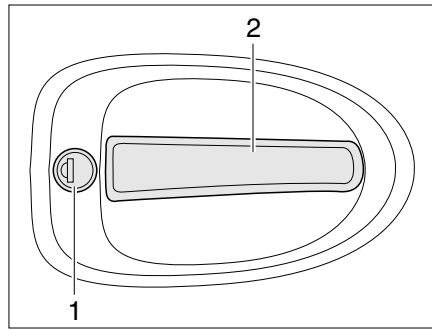

Fig. 46 Door lock of conversion door, outside
- Insert the key into locking cylinder (Fig. 46,1) and turn until the door lock is unlatched.
- Pull on the handle (Fig. 46,2). The door is open.
- Insert the key into locking cylinder (Fig. 46,1) and turn until the door lock is engaged.